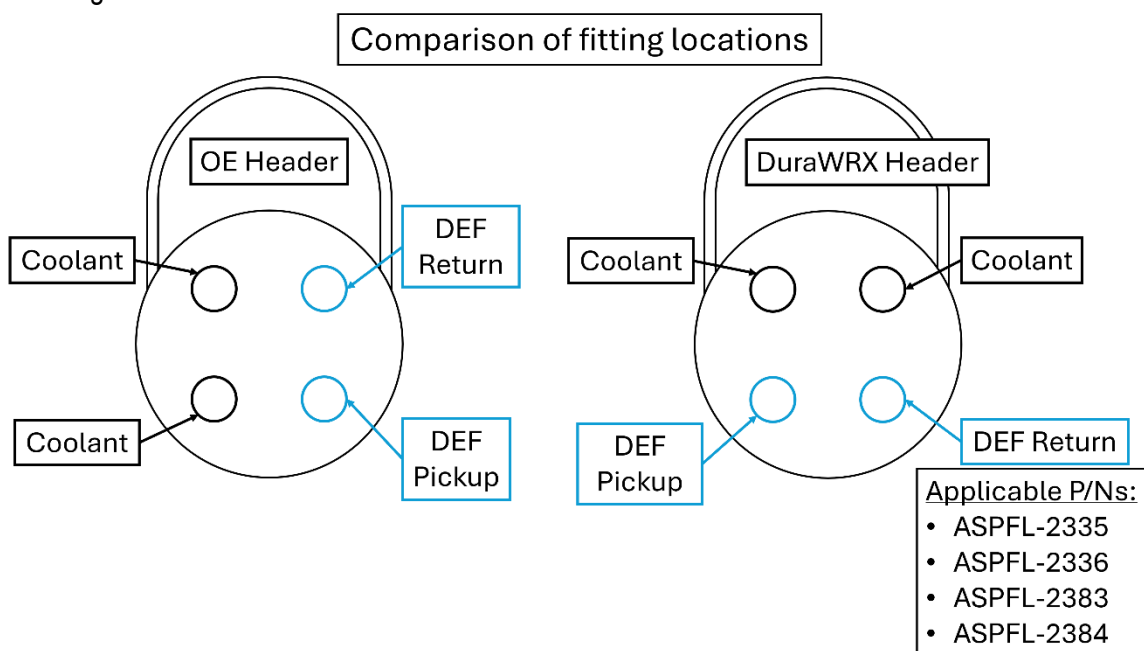

Figure 7 - Comparison between OE and DuraWRX header hose fitting locations
2. Insert the hoses onto the proper ports of the DuraWRX header (refer to Figure 7)